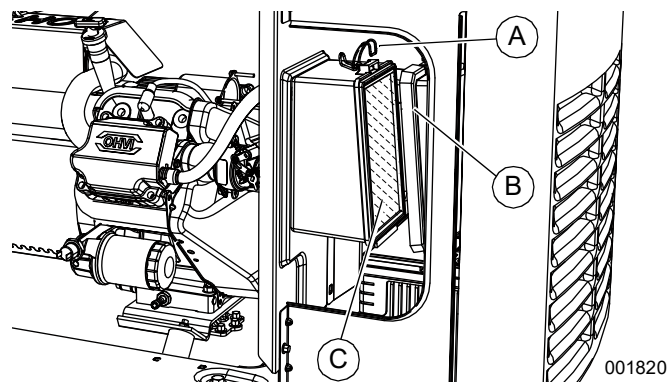
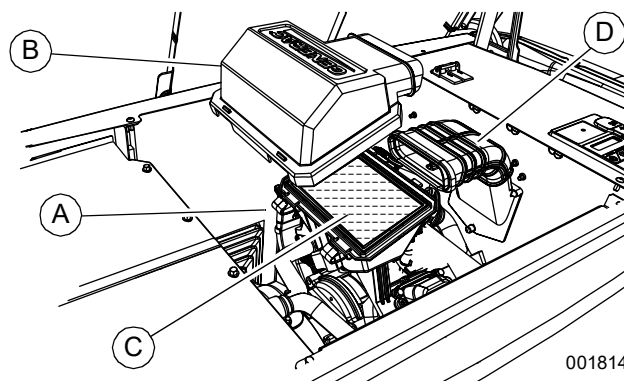

Figure 4-4. Servicing Air Cleaner (10 kW)
Figure 4-5. Servicing Air Cleaner (14–24 kW)
3. See Figure 4-4 or Figure 4-5. Remove cover clips (A) and air cleaner cover (B).